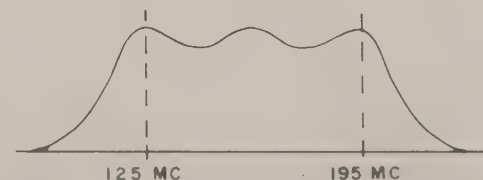

Figure 9. L2808 and L1301 Response Curve
g. Readjust L2808 and L1301 to obtain the response shown in figure 9.